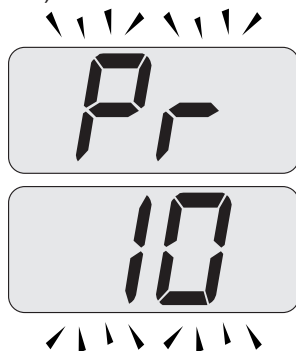

Fig. 8.24
display, indicating that "parameter 10" (Fig. 8.24) has been activated.
- Press keys 12 and 13 (Fig. 8.22) at the same time to exit without changing the value (return to the parameters list Fig. 8.24).